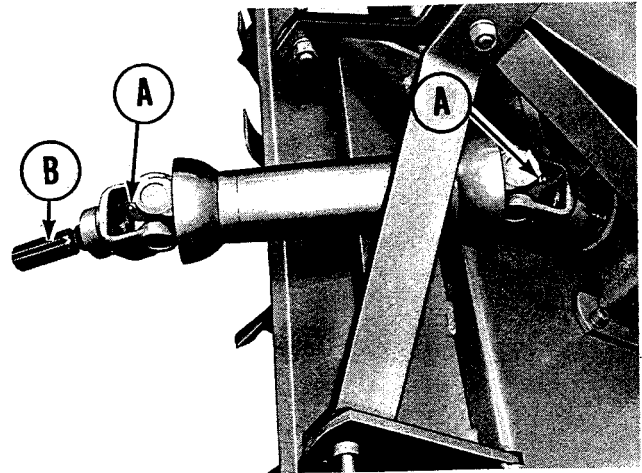

Figure 11. Tiller drive shaft seen from left side.
3. Repeat steps 1 and 2 to tighten the lower drive chain at nut (C). The capscrew not shown in figure 11 is located under the tiller housing.
2	Drive Shaft (figure 11, item A)
A thin film of grease on the drive shaft spline (figure 11, item B) will reduce wear and make installing the drive shaft easier.